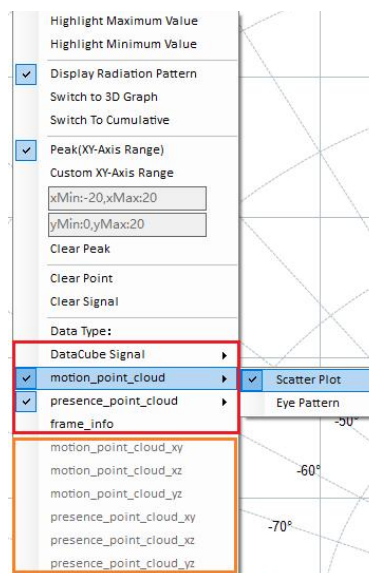
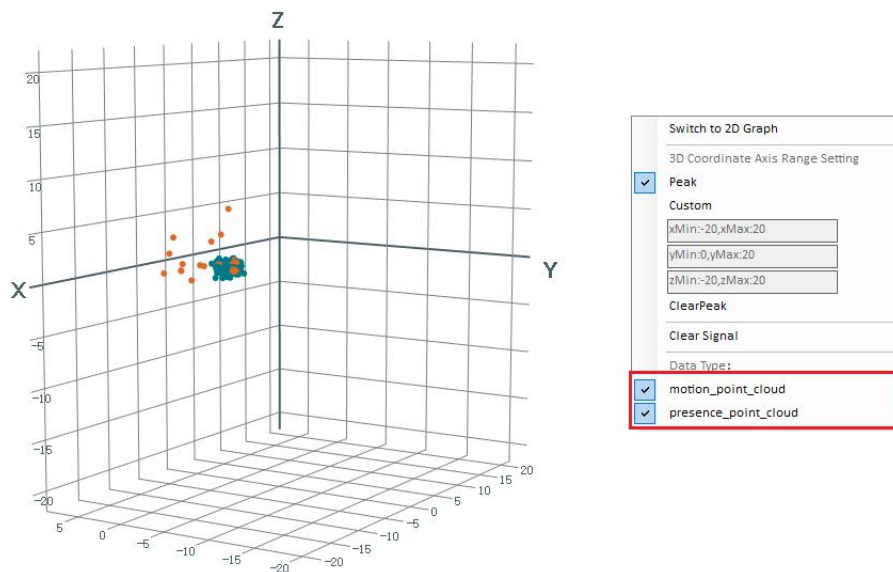

Figure 2-13 Right-click Menu in the Data View
Figure 2-14 3D View
Right-click in any view to open the menu shown in Figure 2-13. Select options as required.
- (1) Highlight Maximum/Minimum Value: Highlights the maximum and minimum values.
- (2) Display Radiation Pattern: Enables the radiation pattern so that point-cloud angles can be viewed more intuitively.
- (3) Switch to 3D Graph: Switches to the 3D view. If the firmware reports point-cloud information, such as `motion_point_cloud` or `presence_point_cloud`, or reports three-dimensional data through the PSIC debugging protocol, select this option to plot the 3D view. After switching to the 3D view, as shown in Figure 2-14, the signal names in the red box are the received point-cloud or 3D data variable names. In this menu, the host application displays and plots only point-cloud or 3D data variables.
- (4) Switch to Cumulative Graph: Switches to a cumulative graph. A cumulative graph can plot only 1D data. Its maximum accumulation count is set by Cumulative Depth (frames num) under Drawing Enable on the Menu Bar.
- (5) XY-Axis Range Setting: Sets the X- and Y-axis display ranges. Peak adjusts the range automatically according to the values. Custom allows you to specify the X- and Y-axis display ranges.
- (6) Clear Peak: Clears the Peak values displayed in the graph.
- (7) Clear Point: Clears the points displayed in the graph.
- (8) Clear Signal: Clears the received variables.
- (9) In Figure 2-13, the signal names in the red box are the DataCube, `motion_point_cloud`, `presence_point_cloud`, and `frame_info` signals reported by the radar. The orange box contains the three point-cloud dimensions parsed by the host application. Select the signals to view and plot. For point clouds, the x-y plane is plotted by default. Two drawing modes are available: Scatter Plot plots each data point and is normally used for point clouds; Eye Pattern overlays data from multiple frames in the view.